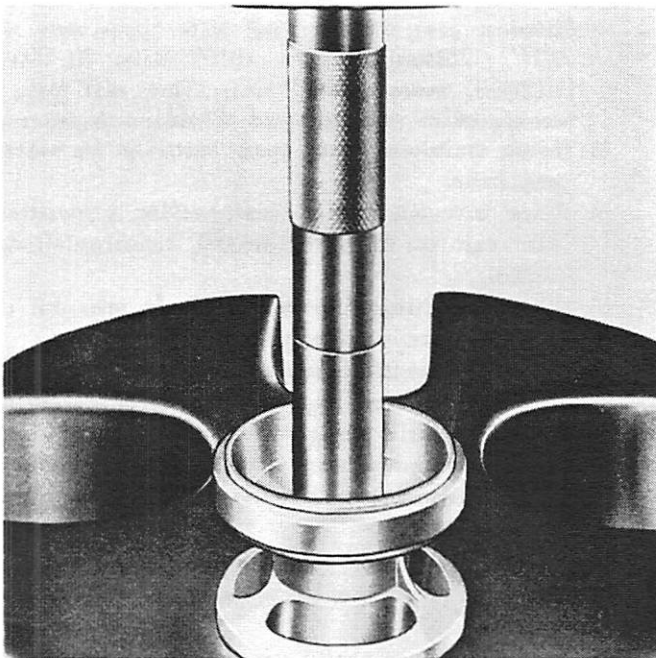

Figure 10. Installing Roller Bearings in Carrier
1. Press roller bearing into bearing carrier from rear of housing with Bearing Mandrel (91-24273). (Figure 10)